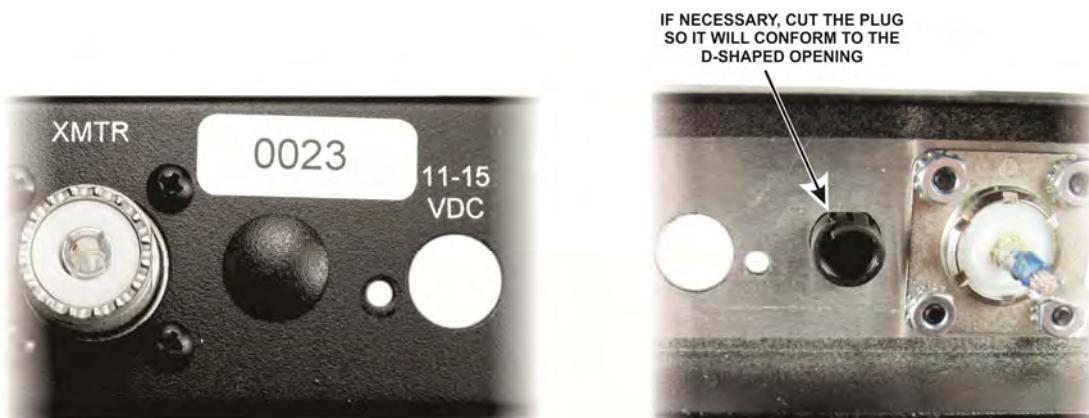

Figure 20. Installing the BNC Hole Cover.
□ Install the BNC hole cover in the opening next to the XMTR SO-239 connector as shown in Figure 20. Press the cover in until the ears on the plug lock it into place. This opening is “D” shaped. If needed, cut the plug section as shown to fit in the hole.